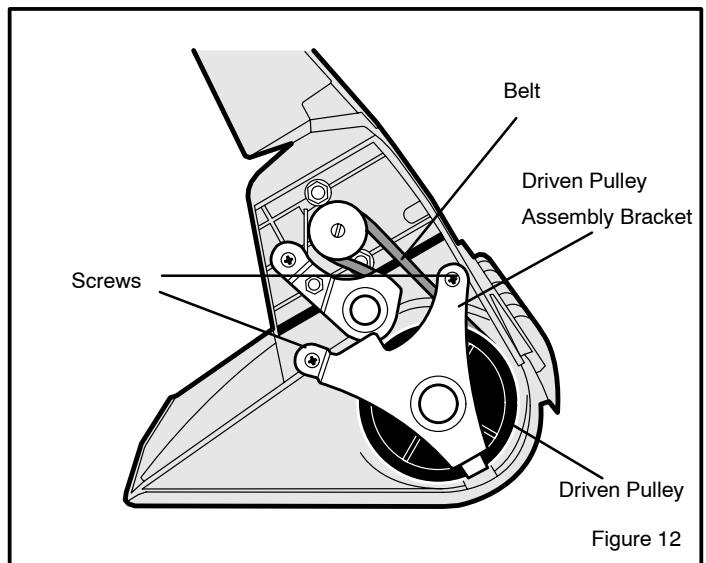

Figure 12
- Remove two (2) screws and bracket securing the driven pulley. Figure 12.